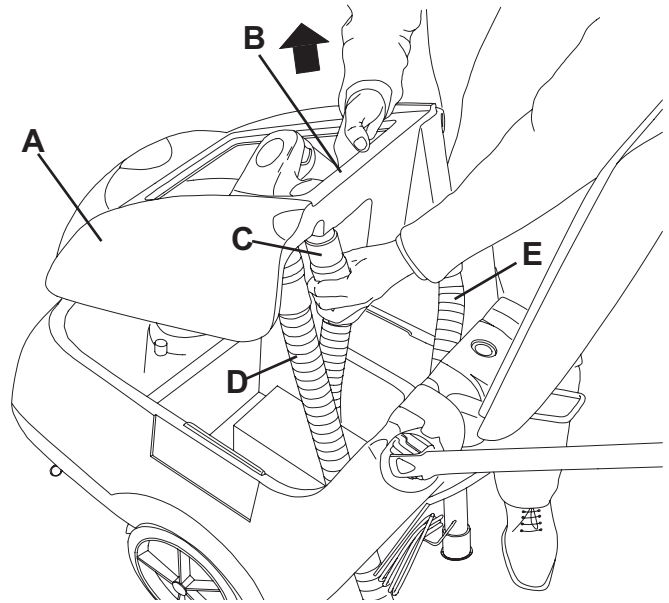

Figure 2
6. Disconnect the vacuum hose (22) from the squeegee (11).
7. Disconnect the recovery water drain hose (16) from the bracket (17).
8. Open the cover (6).
9. Grasp the recovery water tank (A, Fig. 2) in the area (B) and slightly raise it.
10. Disconnect the vacuum hose (C) from the tank, then remove the tank (A) with the hoses (D) and (E).
11. Install the batteries on the machine according to the diagram (28).
12. Install the tank (A, Fig. 2) by performing steps 6 to 10 in the reverse order.